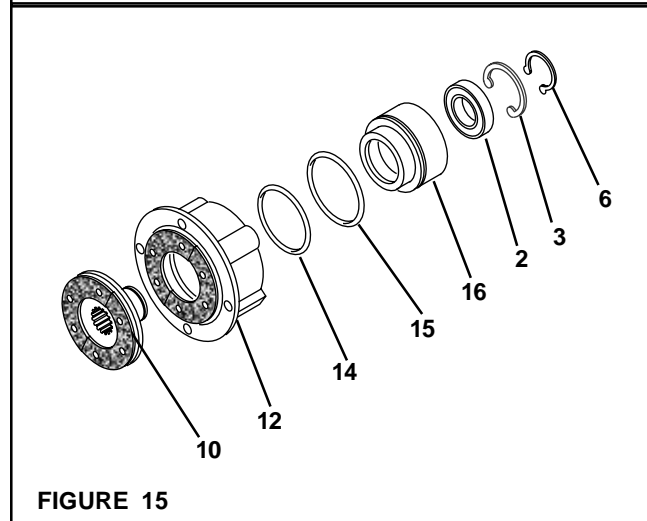

FIGURE 15
11. Remove the Retaining Ring (Item 6) and press the Splined Disc (Item 10) out of the Air Chamber (Item 12) (See Figure 15).
12. Slide the Piston (Item 16) out of the Air Chamber (Item 2) (See Figure 15).
13. Remove the O-ring Seals (Items 14 and 15) from the Piston (Item 16) and the Air Chamber (Item 12) (See Figure 15).
14. Remove the Retaining Ring (Item 3) from the Piston (Item 16) (See Figure 15).
15. Press the old Ball Bearing (Item 2) out of the Piston (Item 16) (See Figure 15).
16. Clean the bearing bore of the Piston (Item 16) with fresh safety solvent, making sure all old Loctite® residue is removed (See Figure 15).
17. Apply an adequate amount of Loctite® 680 to evenly coat the outer race of the new Ball Bearing (Item 2); then, press the new Ball Bearing (Item 2) into the Piston (Item 16) and reinstall the Retaining Ring (Item 3) (See Figure 15).
18. Lubricate the new O-ring Seals (Items 14 and 15) and the contact surfaces on the Piston (Item 16) and Air Chamber (Item 12) with a thin film of fresh o-ring lubricant (See Figure 15).
19. Install the new O-ring Seals (Items 14 and 15) (See Figure 15).
20. Slide the Piston (Item 16) back into the Air Chamber (Item 12) (See Figure 15).
22. Reinstall the Retaining Ring (Item 6) (See Figure 15).